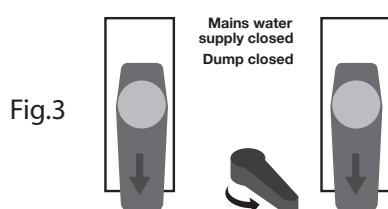

Fig.3
- 5) Set the valves as per Figure 3, add the chemical into the tank.